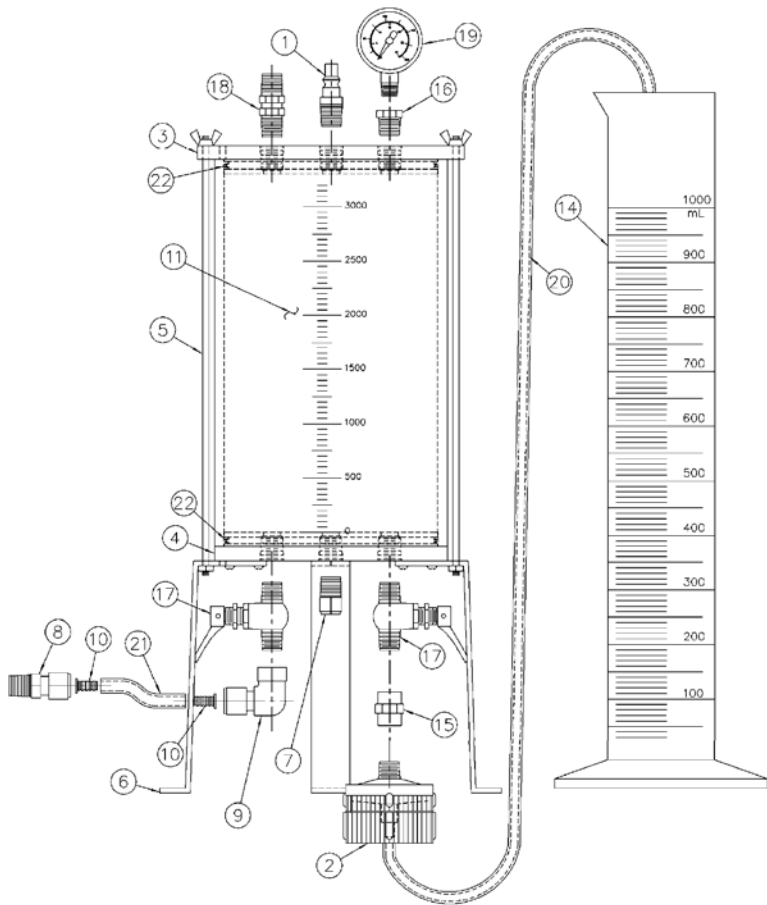

Fig.1
- 1. Unscrew the lower portion of the Membrane filter holder [2, Fig.1] and attach the 1/4 inch tubing [20, Fig.1] to the stem of it.
- 1. To fill the reservoir from the system to be sampled, connect the 3/8 inch tubing fitting [8, Fig.1] and attached to toggle valve [17, Fig. 1] under the reservoir to the system to be sampled, then open this toggle valve. Fill the reservoir to within 1/2 inch (1.27 cm) of the top.
2. Open the toggle valve [17, Fig. 1] between the membrane filter holder [2, Fig. 1] and the bottom of the reservoir to bleed all the air possible from the filter holder.
4. Open the toggle valve [17] again and allow the 1/4 inch (6mm) tubing [20, Fig 1] connected to the bottom of the membrane filter holder to fill with sample, then close the valve.
5. Position the free end of this tubing in the top of the 1000 ml graduate [14, Fig. 1].
- A. Verify the 1/4 inch tubing [20, Fig. 1] is in the 1000 ml graduated cylinder [14 Fig. 1], and is filled with fluid. Open the toggle valve [17] above the filter holder [2] and at the same time start the stop watch.
1. Close the toggle valve [17, Fig. 1] above the filter holder [2, Fig.1].
7. Open Valve [17, Fig.1] attached to [9 Fig. 1]. and drain any sample left in the cylinder.